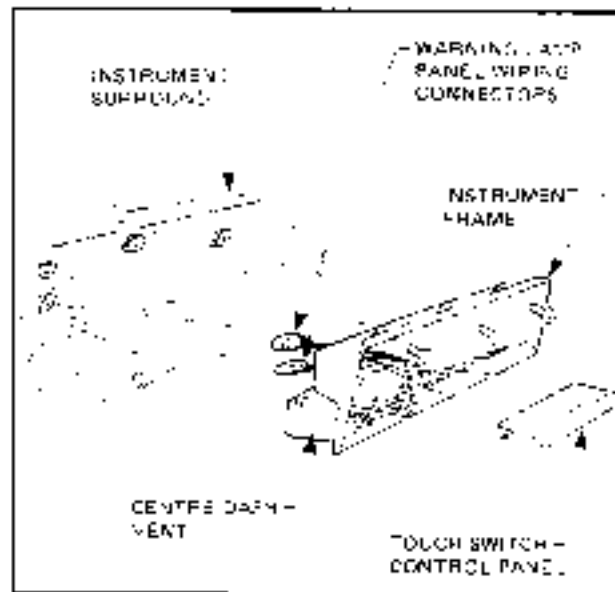

Figure 12C-23
8. Remove the five screws securing the instrument cluster to the instrument surround. Refer Fig. 12C-24.